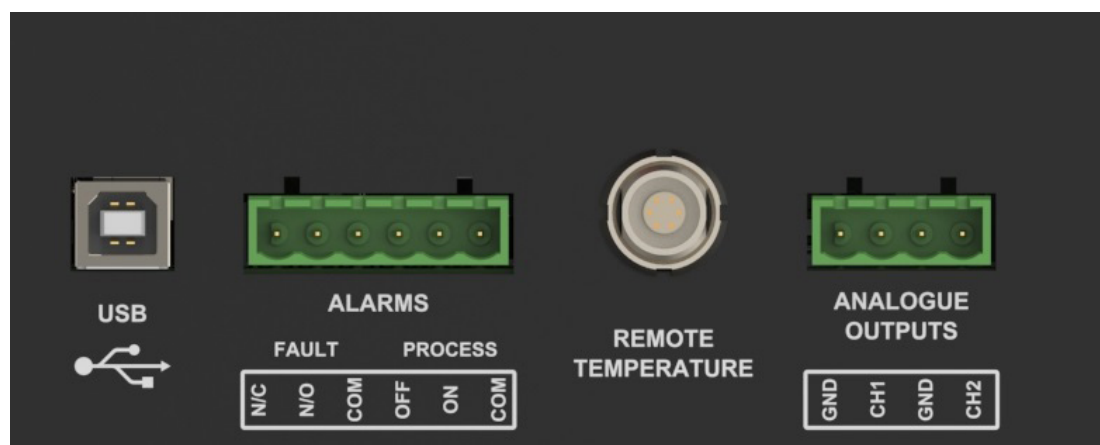

Figure 6 Alarm and Analog Output Connection
The two alarm output ports are connected to the instrument via a single 6-way, push-fit connector block as shown in *Figure 6*. Each output comprises a 3-wire set of potential free, change-over relay contacts.
1. Align the red dot on the body of the temperature probe connector with the red dot on the socket labelled **REMOTE TEMPERATURE** (see *Figure 6*).
3. To remove the connector, slide the connector's body collar (1) back along its axis, away from the instrument, to release the lock. Gently pull the connector body out of the socket. **NOTE: Do not attempt to pull the connector out with the cable – make sure that the collar is released first.**
1. Check the orientation of the connector and gently push it into the communications socket (see *Figures 6 and 7*).